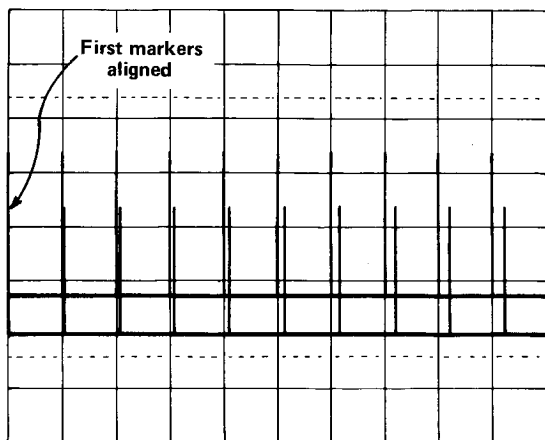

Fig. 4-3. Sweep Registration correctly adjusted (R560).
b. Rotate the TRACE SEP control to position the delaying sweep trace about one-half division above the delayed sweep trace (see Fig. 4-3).
f. ADJUST—R560, Sweep Registration, to align the first marker of both traces (see Fig. 4-3).